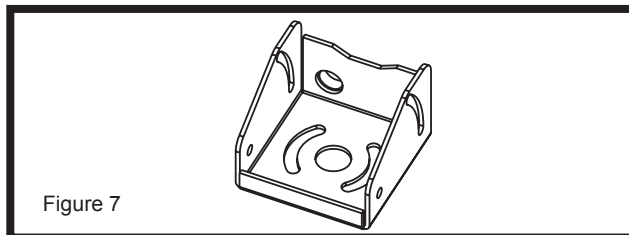

Figure 7
9. With appropriate hardware (not provided), attach the mounting bracket to the housing's mounting surface (Figure 7).